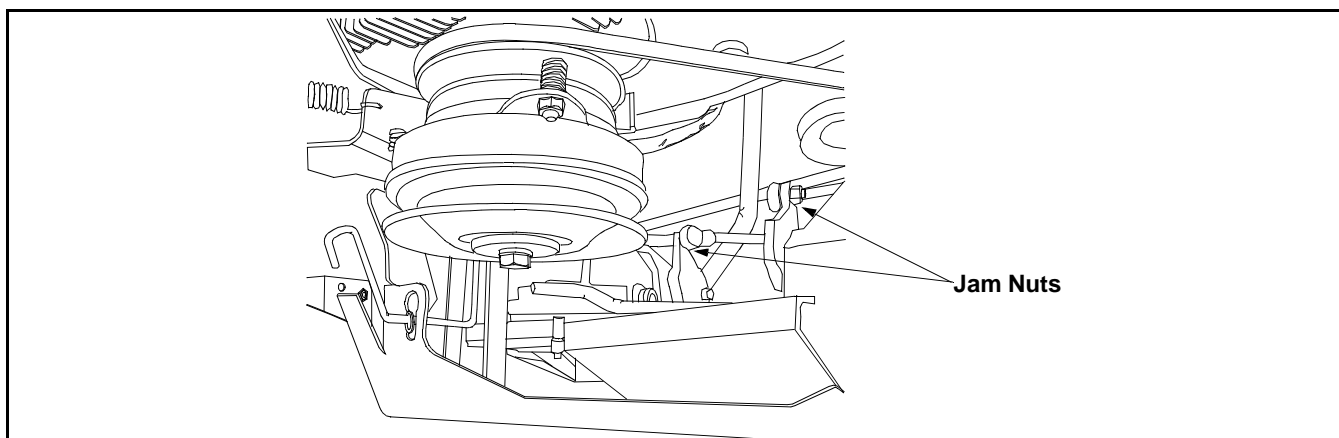

Figure 25
13. Locate the clutch pulley. It is located in the rear of the tractor, below the muffler. (See Figure 25)